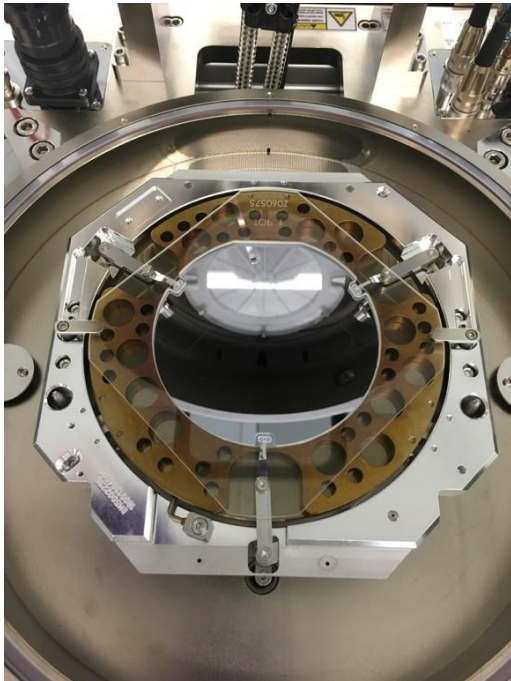

Figure 4: Clamping glass going around both wafers with clamps correctly applied
7. Carefully apply clamps on either side of the clamping glass without lifting the tooling. Make sure the clamps are perpendicular to the side of the clamping glass and they make contact with the clamping glass at the same time. If they are not perpendicular, the wafer may break. See Figure 4 for correct positioning of the clamping glass and clamps.